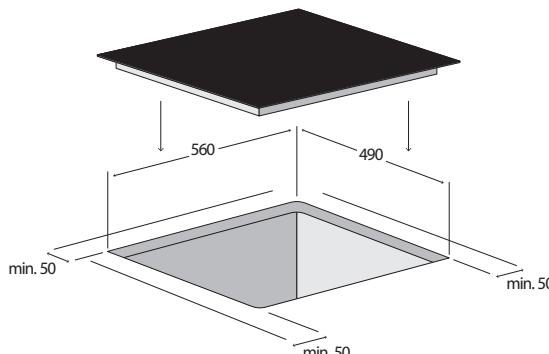

Fig. 7
- The appliance should be assembled into correct built-in units and work surfaces that align to the standards and have dimensions shown in Fig. 7.
- The required dimensions of the built-in space in the worktop made of heat-resistant material of a minimum thickness of 38–40 mm are on Fig. 7.